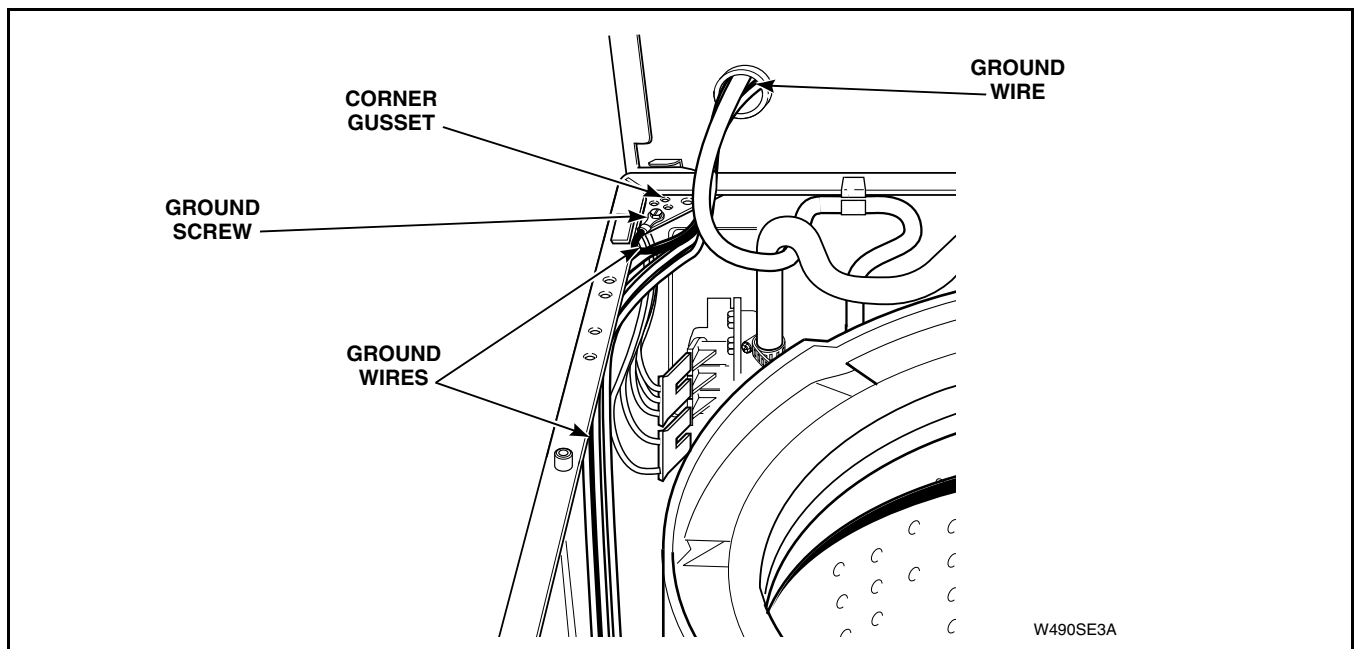

Figure 3
19. CONTROL HOOD WIRE HARNESS TO TOP LEFT REAR CORNER GUSSET OF CABINET Refer to *Figure 3*.